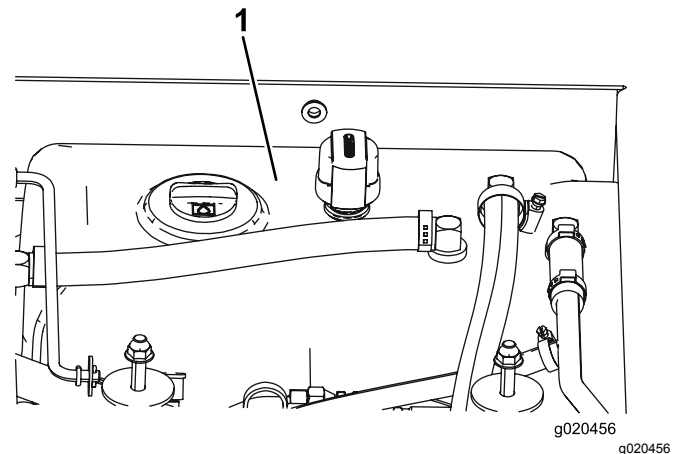

Figure 96
4. Fill the reservoir (Figure 96) with hydraulic fluid; refer to Checking the Hydraulic Fluid (page 67).